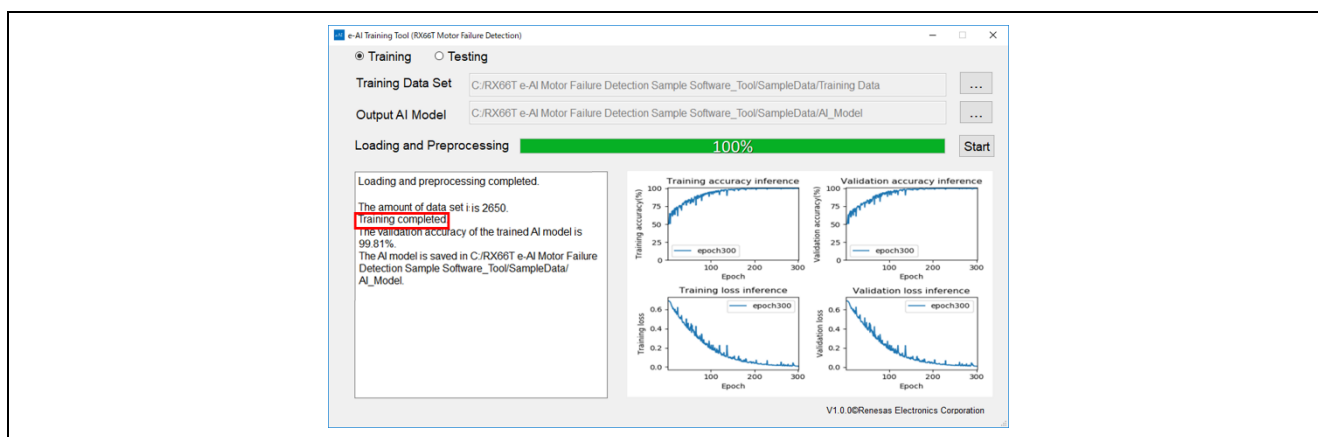

Figure 5-6. Training Completed Screen Shot
- ① Prepare three folders ahead of time and name as follows: Training data, Testing data, AI_Model. Store the collected training data and testing data in their respective folders. The AI_Model folder is for storing the output AI model.
- ② Execute the e-AI_Training_Tool.exe file. Make sure the program is set to Training mode.
- ③ Specify each data folder. Specify the folder that stores the training data as “Training Data Set.” Specify the folder created for the output AI model as the “Output AI Model.”
- ④ Click START to initiate the training. Preprocessing of the training data will start. When the progress bar shows “100%”, preprocessing is complete and “dataframe.csv” is created in the folder where the collected data is stored. When preprocessing finishes, the sequence proceeds to the training process. When training finishes, “Training completed” is displayed as shown on the left in Figure 5-6. If a problem is detected during preprocessing, operations stop and “Training failed” is displayed.